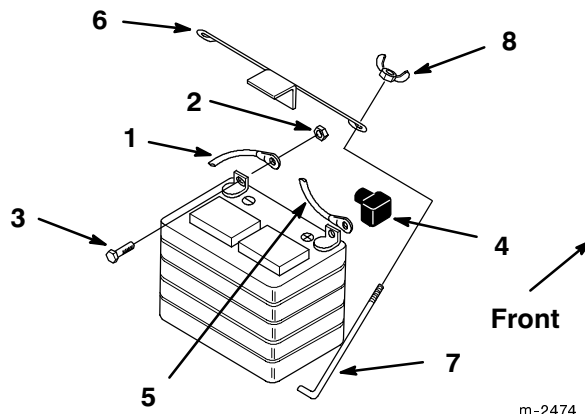

Figure 40
3. Disconnect the negative (black) ground cable from the battery post (Fig. 40).
4. Lift the rubber cover up on the positive cable. Disconnect the positive cable (red cover) from the battery post (Fig. 40).
5. Remove the battery hold down rods (Fig. 40). Lift battery from tractor.
6. Install the battery into the chassis (Fig. 40).
7. Secure battery in chassis with hold down rods and wing nuts (Fig. 40).
8. Using the bolt and locknut, connect the positive (red cover) cable to the positive (+) battery post (Fig. 40). Slide the rubber cover over the battery post.
9. Using the bolt and nut, connect the negative (black) cable to the negative (-) battery post (Fig. 40).